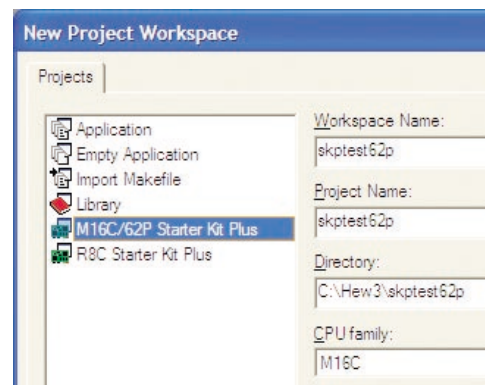

Figure 3. New Project Workspace in HEW
- ii) Select “M16C/62P StarterKit Plus” (Figure 3).